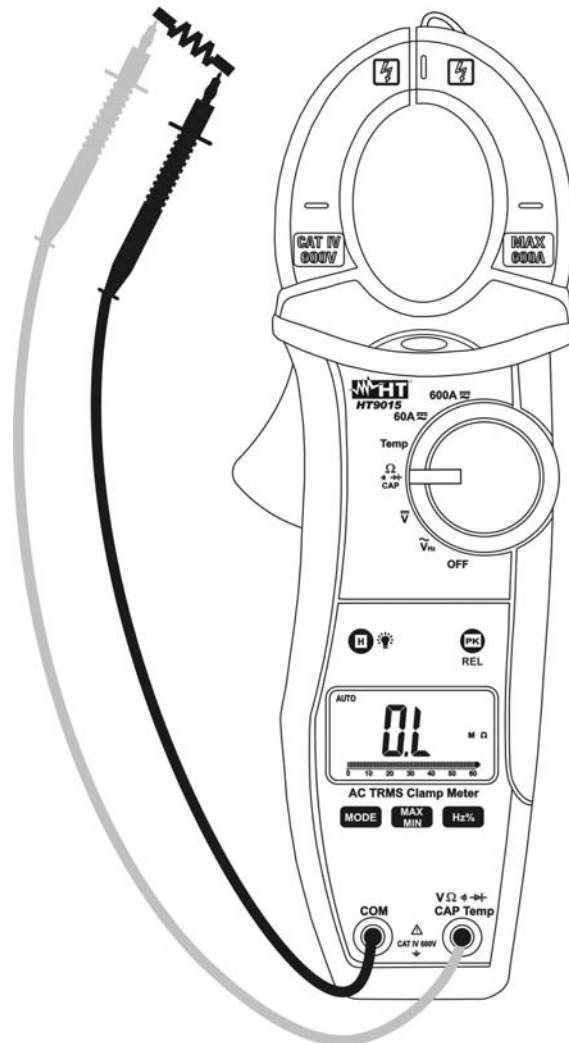

Fig. 9: Taking Resistance measurement
2. Insert the red test lead plug into $V \Omega \cdot \text{CAP Hz \% Temp}$ jack and the black test lead plug into **COM** jack (Fig. 9)